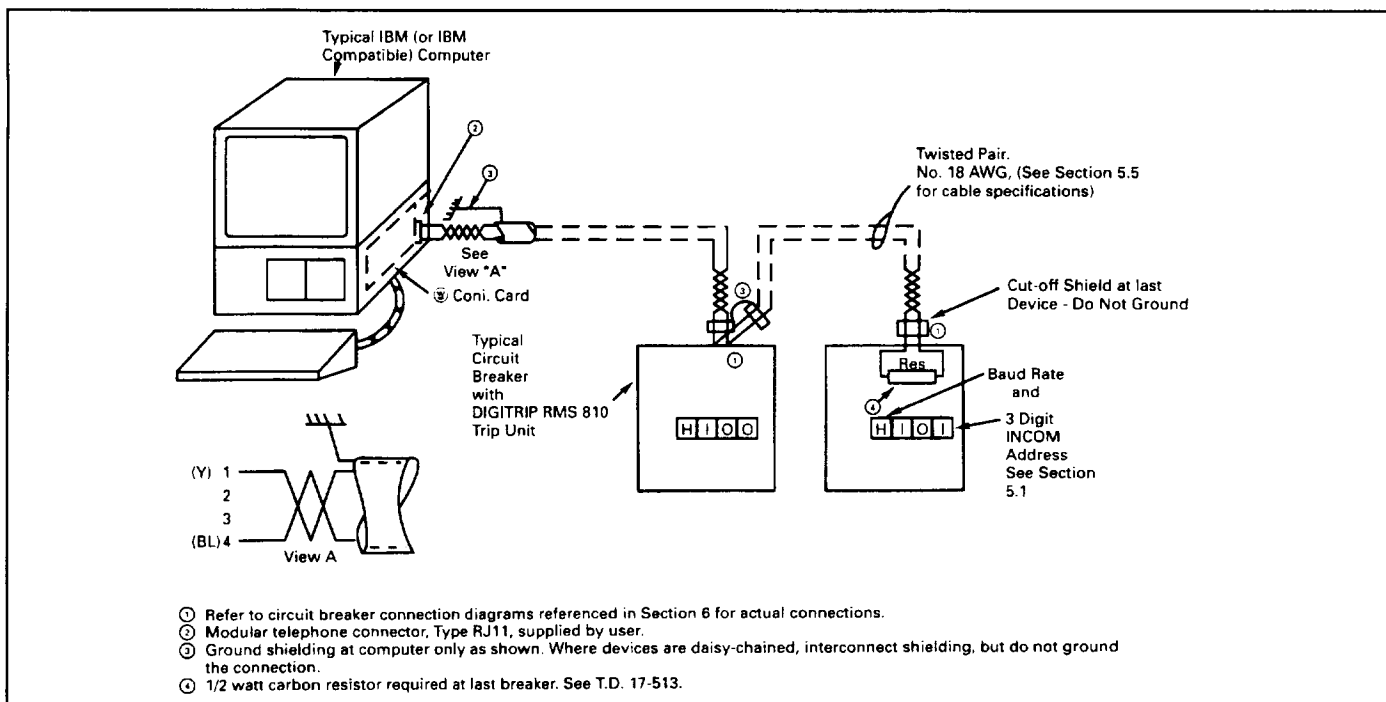

Fig. 11.1 INCOM with Remote Master Computer
- 5) The letter "H" refers to the High 9600 Baud rate; and the letter "L" refers to the Low 1200 Baud Rate. An "X" in the Baud Rate field indicates that neither "H"igh nor "L"ow Baud Rate has been selected. Press and release the (Black) "TEST" push button to change the baud rate. (You do need to continue-to-hold-in the "TRIP RESET" push button.) Suggestion: Before you press and release the (Black) "TEST" push button, set the "TEST AMPS" switch to "1", to minimize the effect of an "unintended test", which can occur, if your other finger would happen to come off the "TRIP RESET" push button. For correct communications, be sure to use the terminating resistor at the end of the twisted pair (last element in the INCOM[®] chain). (See Figures 11.1, 11.2, and 11.3, and refer to the IMPACC[®] Wiring Specification listed in Section 6.)
To communicate with a remote master (IBM® compatible) personal computer, install a Cutler-Hammer Inc. Computer Operated Network Interface (CONI) card into the computer frame (chassis). The connections in the network are then made by twisted pairs of wires as shown in Fig. 11.1.